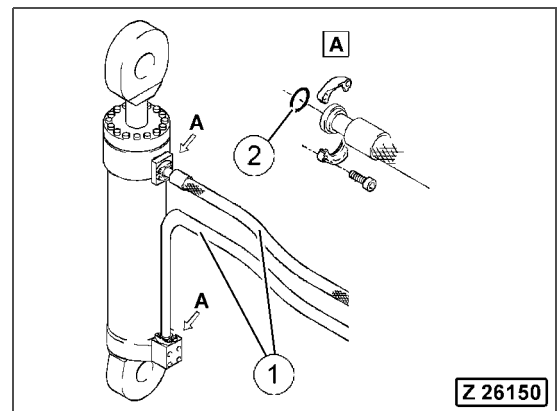

Fig. 5-134
7. Connect the hydraulic hoses (Fig. 5-134, Pos. 1) to the clam cylinder.
REMARKS: Use new O-rings (Fig. 5-134, Pos. 2) at the SAE-flange connections.